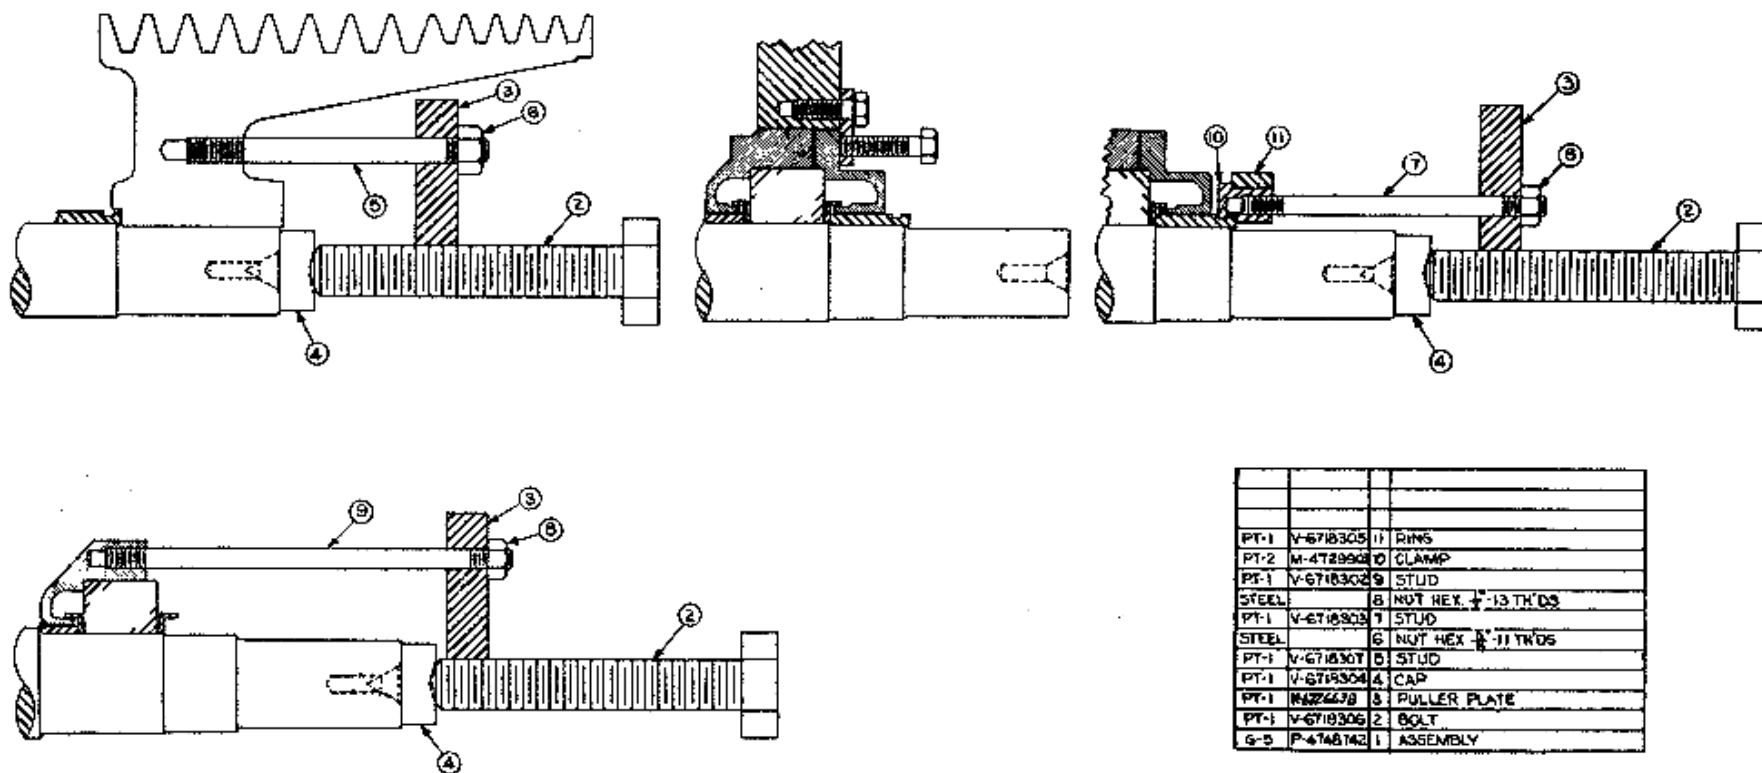

Figure 11. Puller for Generator GT-558.
a. To remove the generator from the engine, first remove the engine generator set from the locomotive, then place fiber or pressboard shims into the air gap of the generator so that the armature will not drop down on the pole pieces when disconnected. Disconnect all cables from the set. Remove the 10 bolts (23) from the engine side of the flywheel, joining flywheel to coupling, working through opening in bell housing, one bolt at a time. With the engine blocked up and a hoist on the generator, remove the 16 bolts (21). The generator should then be drawn forward so that the coupling clears the engine, after which it may be hoisted up. Care should be exercised to keep loosened parts blocked up to prevent upsetting or falling.
b. To remove armature from frame, first lift brushes and wrap heavy paper around commutator surface to protect it. Remove pulley from shaft extension, using a suitable puller. Disassemble cap screw (29), lockwasher (28), and endplate (27). Remove the six inner cap screws (7). By using two jack screws in the two tapped holes in the end plate (10), it is possible to push the bearing housing assembly out of its fit in the magnet frame. The armature may then be removed through the engine end of the frame. Care should be exercised in the handling of parts so as not to damage them, particularly the windings and commutator.
c. To remove generator bearing, first remove key from shaft, and pull off sleeve (6), using suitable puller (fig. 11). Unscrew the two flat head machine screws holding (5) to (2) and remove bearing cap (5). Remove outer flinger (3) using suitable puller (fig. 11). With studs engaging the tapped holes from which bolts (7) were removed, it is pos-